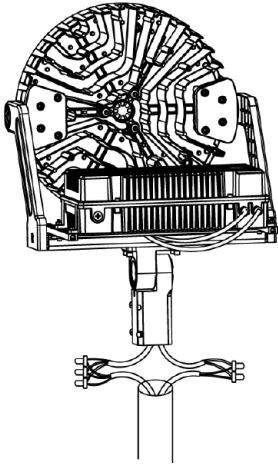

Figure 11
- Once the guide rails and driver box are re-installed, feed the wiring through the slip fitter and pull wires into pole. (Figure 11)